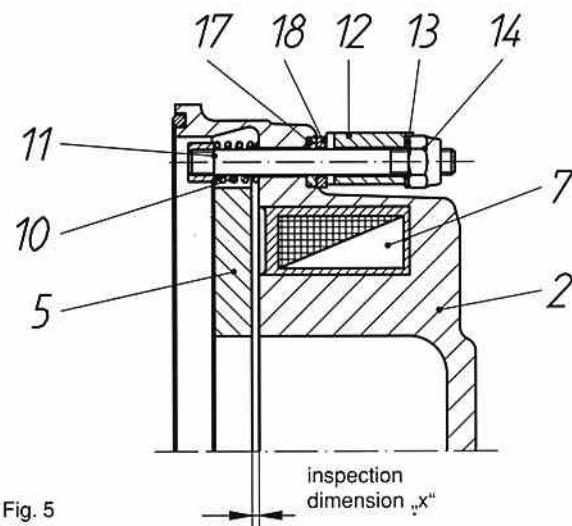

Fig. 5
- 3.10 After installation of the ventilation cover screw in the hand release bar (15) into the hand release bracket (12) and tighten it.
* The assembly items 3.5 or 3.6 refer to the hand release in a sealed design (IP 65) figure 5.